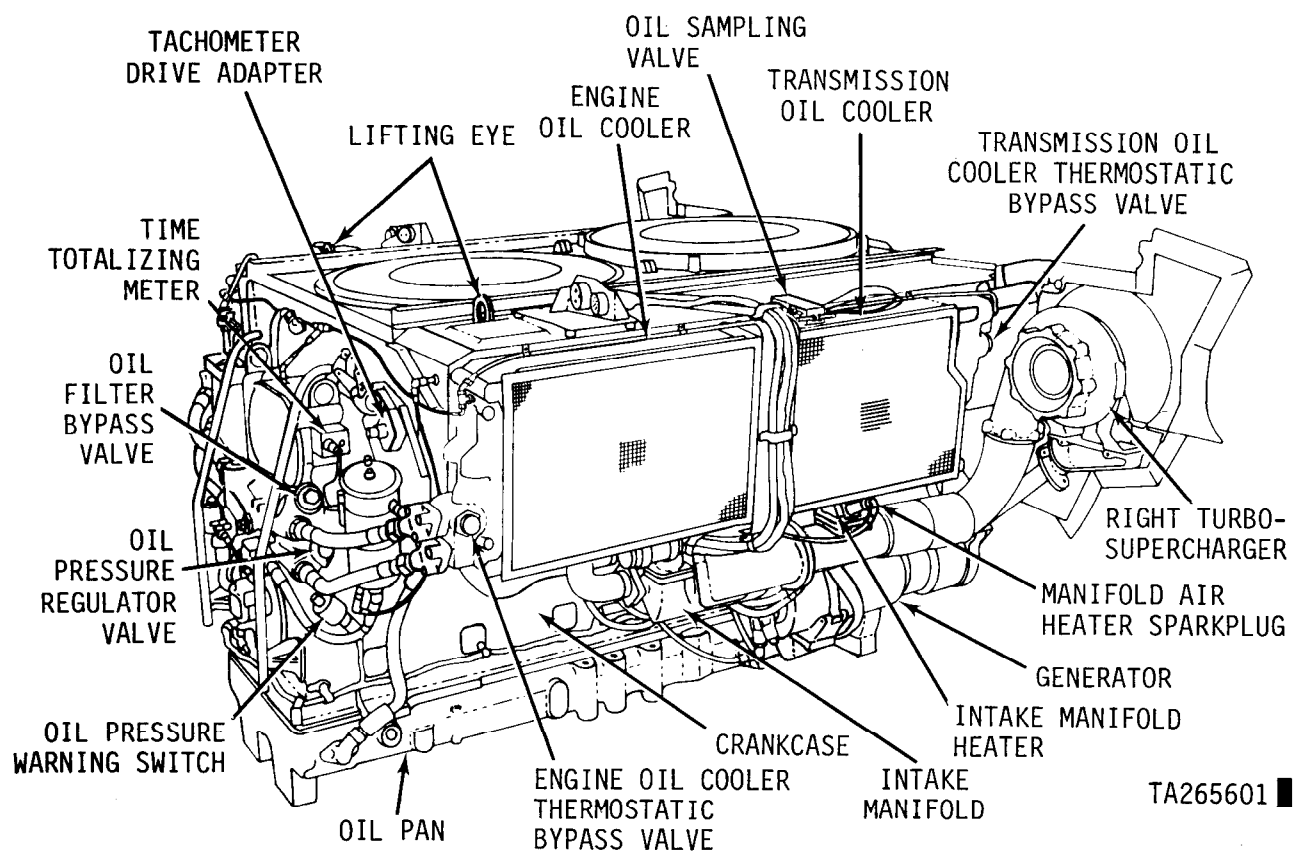
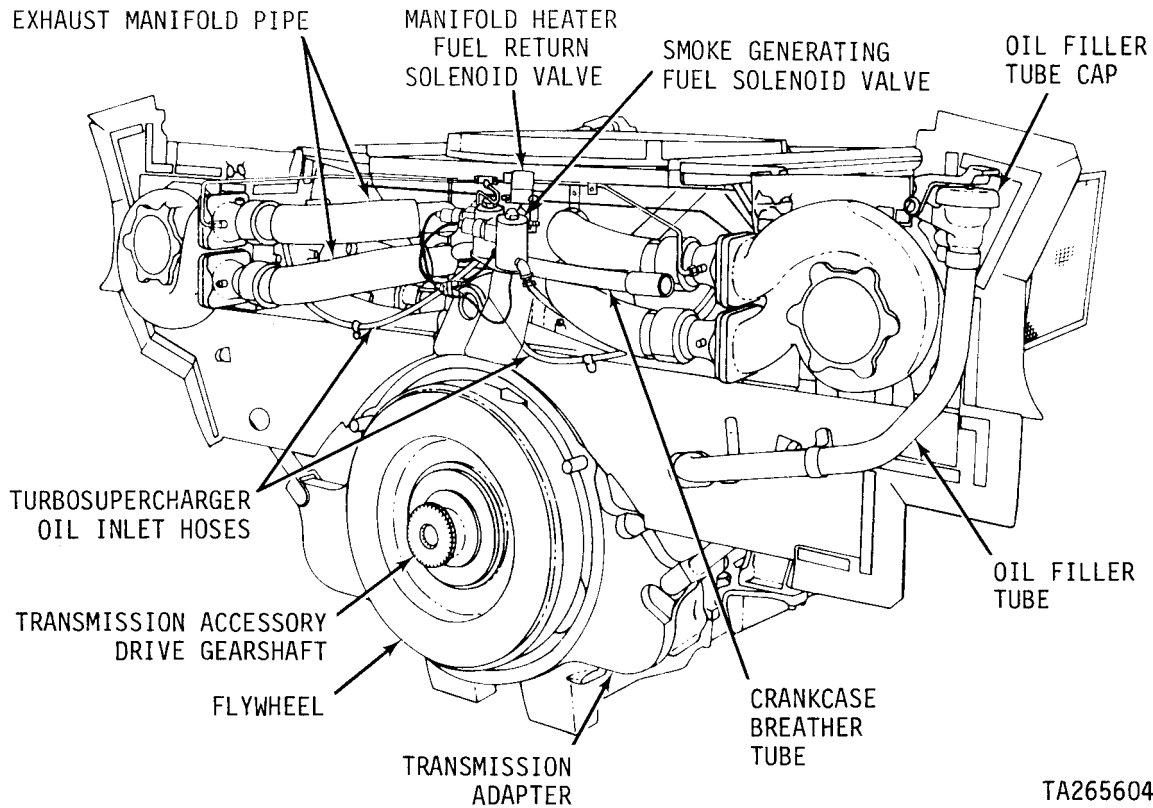
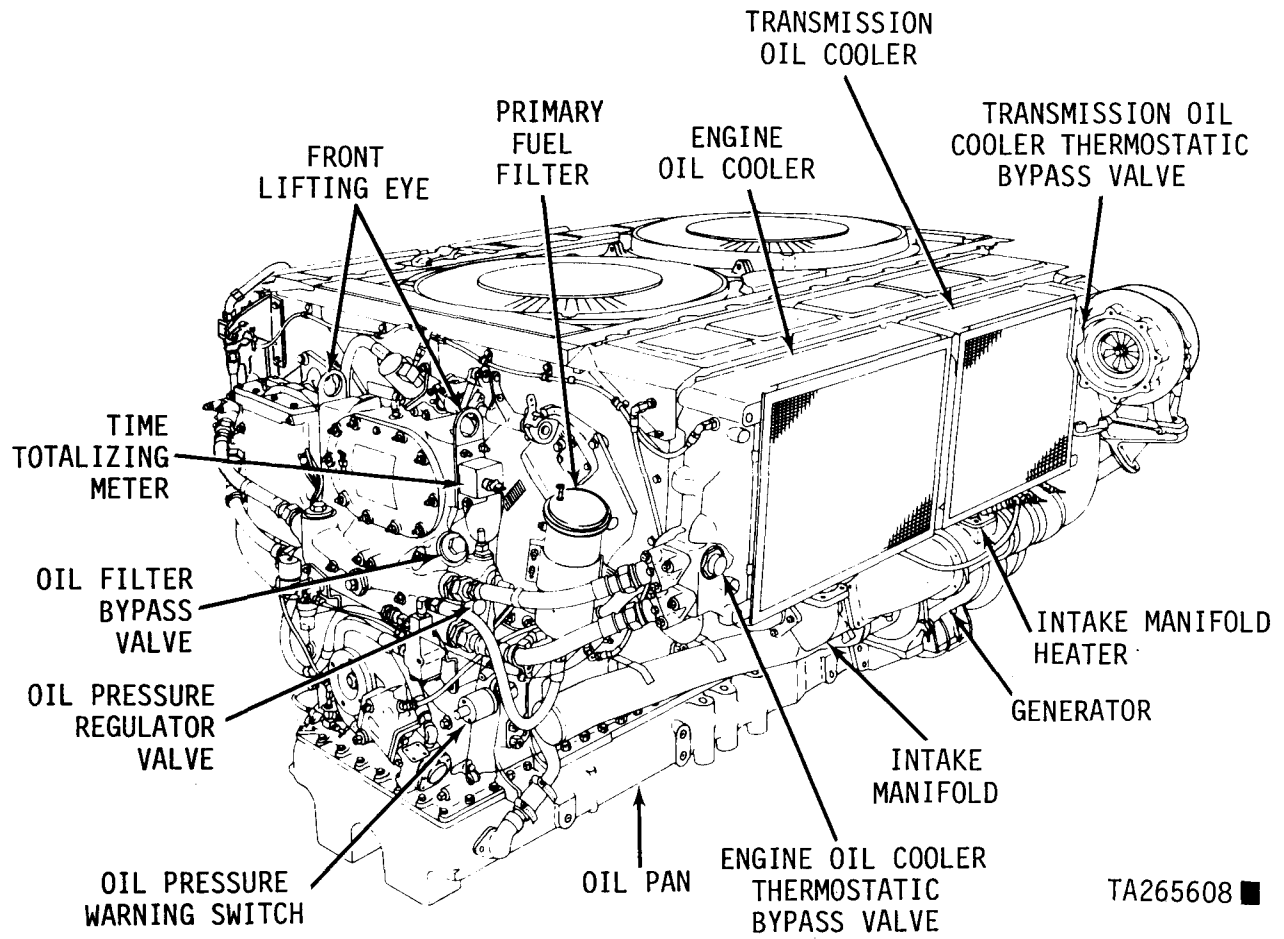

Figure 1-1. AVDS-1790-2C engine assembly - right front view.
Figure 1-4. AVDS-1790-2C and AVDS-1790-2D engine assembly - rear view.
Figure 1-7.1. AVDS-1790-2DR engine assembly - right front view.
a. This technical manual contains instructions for Direct Support and General Support of the 12-cylinder, Model AVDS-1790-2C engine (figs. 1-1 through 1-4), Model AVDS-1790-2D engine (figs. 1-4 through 1-7), Model AVDS-1790-2DR engine (figs. 1-7.1 through 1-7.4), Model AVDS-1790-2CA (figs. 1-7.5 through 1-7.7) and Model AVDS-1790-2DA (figs. 1-7.7 through 1-7.9). Included are descriptions of and procedures
a. The Model AVDS-1790-2C engine is equipped with a 28 volt, 650 ampere, oil cooled dc generator (fig. 1-1).
c. The Model AVDS-1790-2DR engine is similar to Model AVDS-1790-2D except that it has a power take-off unit mounted on the damper housing, and a solenoid controlled throttle linkage designed to maintain a minimum engine speed for operation of the power take-off unit (fig. 1-7.1). The turbosuperchargers are located approximately 2.50 inches inboard which necessitated reindexing the turbosupercharger outlets to accommodate the
new location (figs. 1-7.1 and 1-7.2). The flywheel has an internal ring gear for driving the transmission and is mounted to the crankshaft through an adapter (fig. 1-7.4). The transmission adapter (housing) serves as a spacer for attaching the transmission to the engine. Fuel injection pump overflow fuel is routed back through the front engine shroud, and the fuel return tube cross at the rear of the engine is blocked. This model is not equipped with engine installation guides or wiring harness.
a. The engine Models AVDS-1790-2C (figs. 1-1 through 1-4), AVDS-1790-2D (figs. 1-4 through 1-7), AVDS-1790-2DR (figs. 1-7.1 through 1-7.4), AVDS-1790-2CA (figs. 1-7.5 through 1-7.7) and AVDS-1790-2DA (figs. 1-7.7 through 1-7.9) are 12-cylinder, 90 degree, V-type, 4 cycle, air cooled turbosupercharged diesel engines. The cylinder assemblies are individually replaceable units with overhead valves and valve rocker assemblies in the head. The cylinders are arranged in two banks of six cylinders each. Each bank of cylinders has an overhead camshaft arrangement to actuate the valves of each cylinder.
b. The engine features a fuel injection system and a turbosupercharged air induction system which obtains optimum engine performance. The fuel injection system has a fuel injection metering pump which supplies metered fuel to individual cylinders through fuel injector nozzles. The fuel supply pump assembly (fig. 1-3) located at the front of the engine draws fuel through the primary and secondary fuel systems from the vehicle fuel tanks and delivers it to the injection pump. A turbosupercharger assembly (figs. 1-1 and 1-2) is located on each side of the engine at the rear. The turbosuperchargers are exhaust-gas driven and increase the air flow pressure entering the air intake manifolds (figs. 1-1 and 1-2).
c. The Model AVDS-1790-2C and Model AVDS-1790-2CA engines are equipped with a 28-volt oil cooled dc generator (fig. 1-1) capable of 650 ampere output over the engine operating range. The generator produces an alternating current which is rectified within the unit to give a direct current to the output terminals.
g. The engines are equipped with two intake manifold heaters (figs. 1-1 and 1-2) which are installed in the air intake systems between the intake manifold elbows and the turbosuperchargers. The heaters, when operated, preheat the air entering the cylinders to facilitate cold weather starting and cold weather idle operation.
h. The engine crankcase is vented by an enclosed crankcase breather system which is vented through the crankcase breather tube (fig. 1-4) at the left turbosupercharger exhaust pipe.
The crankcase (fig. 1-1) is a one-piece aluminum casting with forged aluminum main bearing caps. The bearing caps function as an integral part of the crankcase. Each cap is secured on studs with four slotted nuts. Two through bolts clamp the main bearing cap in the tunnel slot of the crankcase. With this type of crankcase and bearing cap construction, uniform load distribution in the bearing area is obtained making possible uniform distribution of combustion forces over the entire crankcase.